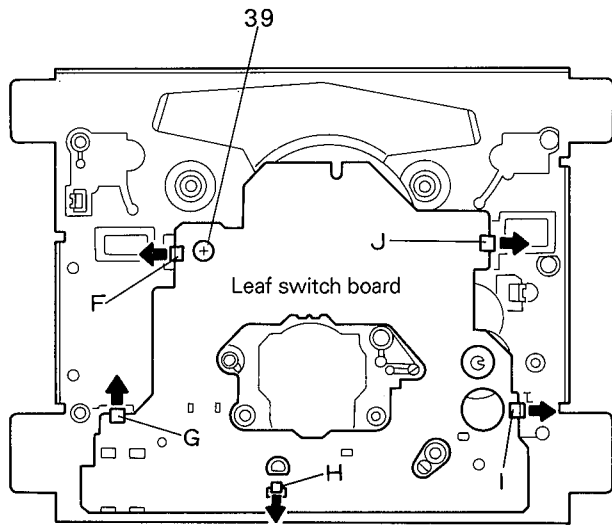

Fig. 5-50
■ **Leaf switch board** (Fig. 5-50)
1. Remove a screw (39) retaining the leaf switch board from the chassis basis.